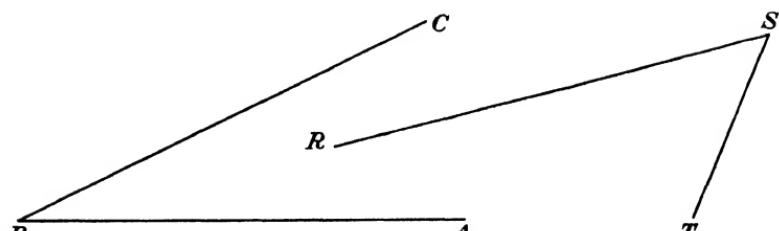

Fig. 102.
- Measure the angles in Fig. 102.